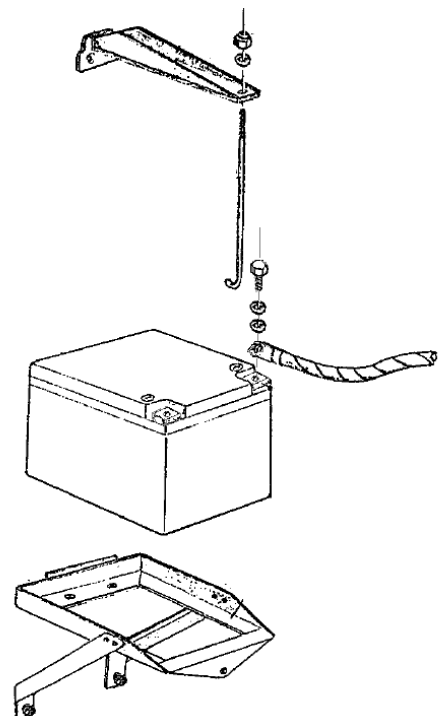

Figure 1 : Battery installation
- Fit Nipple P/N MS25171-4S over battery leads (not shown in Fig 1 for clarity)
- Connect Battery Terminal leads using following hardware (Refer Fig 1):